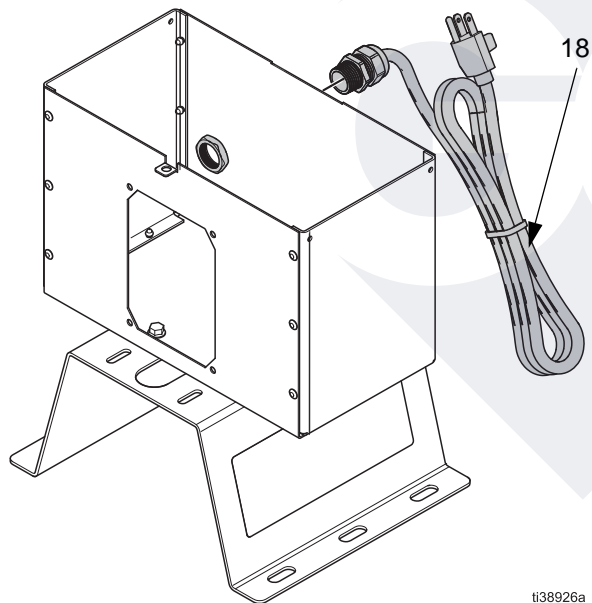

FIG. 4 AC Power Source
- **For AC models (25T651)**, simply plug the power cord (18) into a standard 115 VAC receptacle. See FIG. 4.
- **For DC models (25T650)**, connect red wire on the controller (15) to the red wire on the power supply (13), and the black wire on the pump (2) to the black wire of the power supply (13).